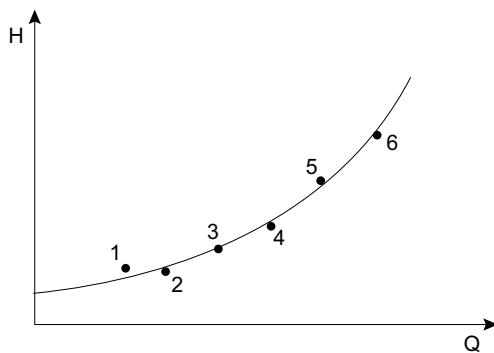

Fig. 7.3.2a Process curve
Process curve – this specifies the connection between the total pressure drop ($L \Delta H$) in the process plant and the capacity (Q) (see Fig. 7.3.2a).